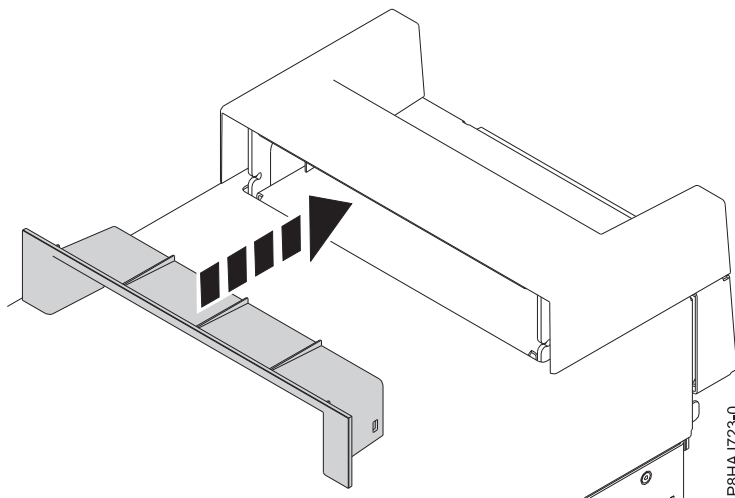

Figure 32. Inserting the piece within the handle cover on an 8286-41A stand-alone system
2. Insert the piece within the handle cover by pushing it firmly into the handle cover as shown in Figure 32.